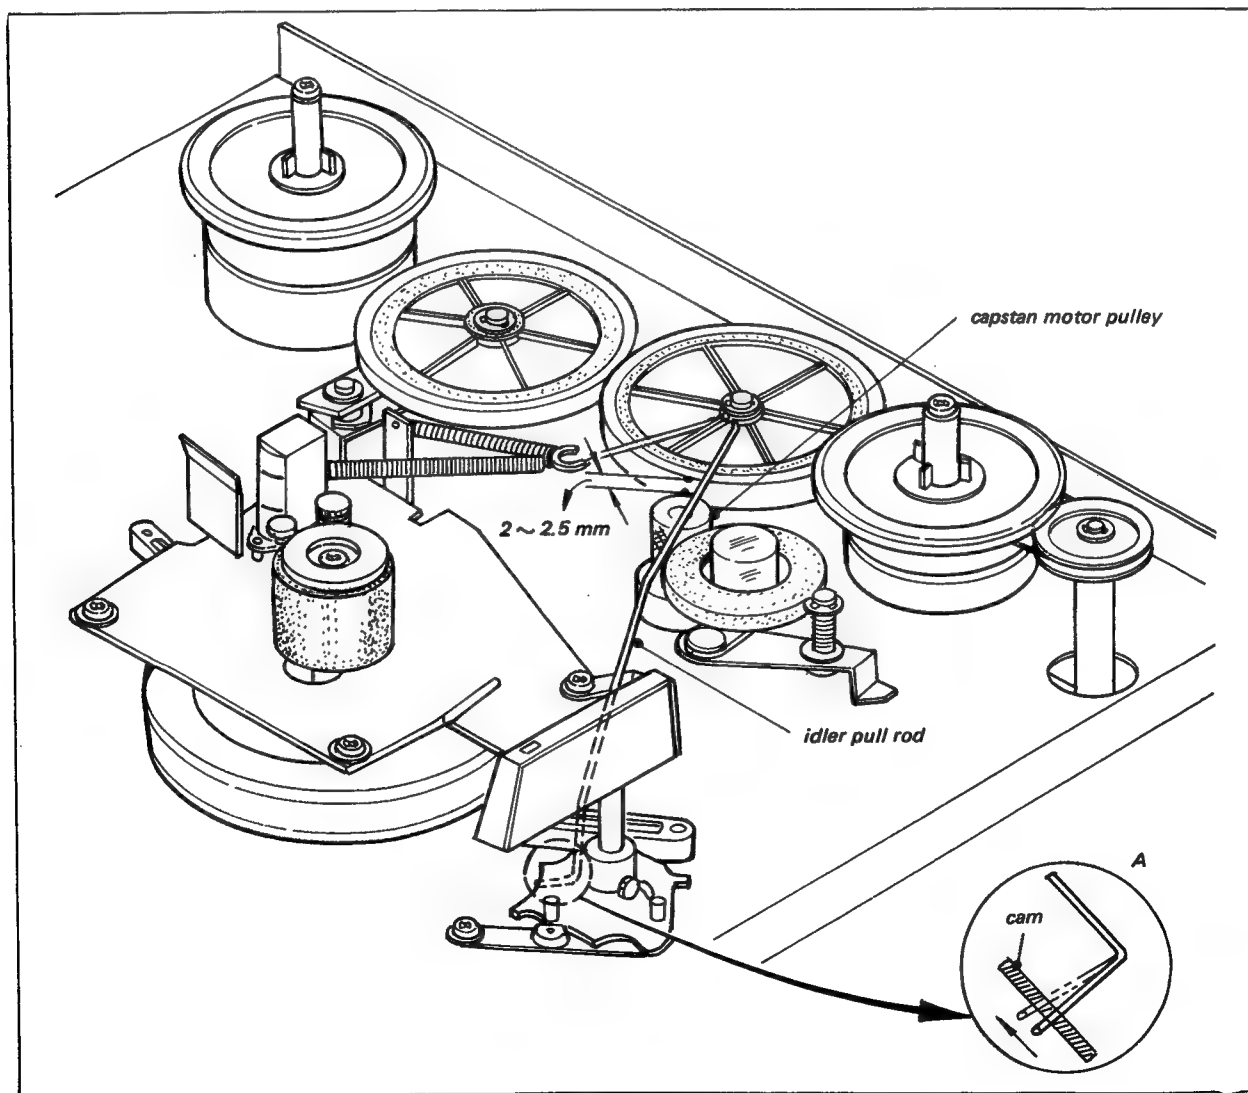

Fig. 4-17. Brake timing adjustment
1. Set the Function Lever to STOP. Check for a 2-2.5 mm clearance between the Capstan Motor Pulley and the Right Rewind Idler. Bend Take-Up Cam Push Rod A with a pair of pliers as needed to obtain the correct spacing. See Fig. 4-17.